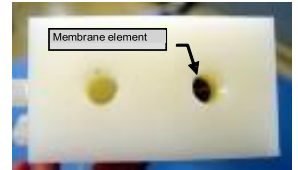

Figure 10
1. Begin by loosening the four set screws (item 11).
2. Remove the four 1/4" NPT plugs (item 10) in the end faces of the coupling fittings (item 1). See Figure 10.